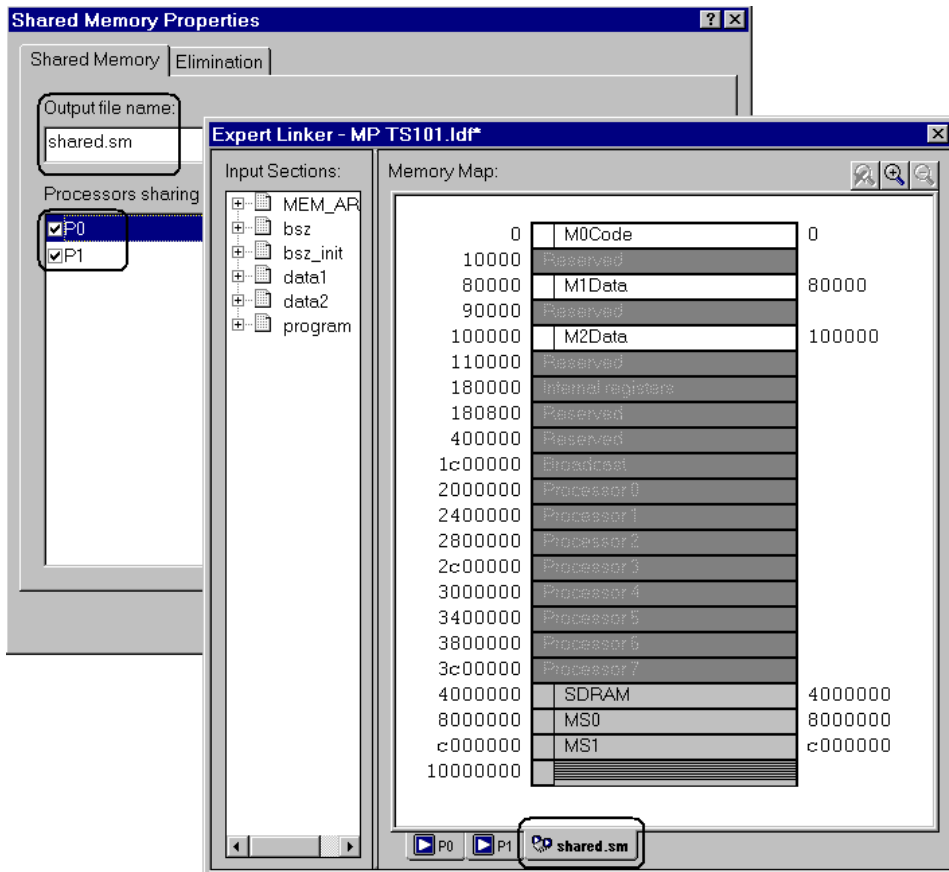

Figure 3-3. Shared Memory Tab Sample
3. Choose **Properties**. The **Shared Memory** page of the **Shared Memory Properties** dialog box appears (see Figure 3-3).